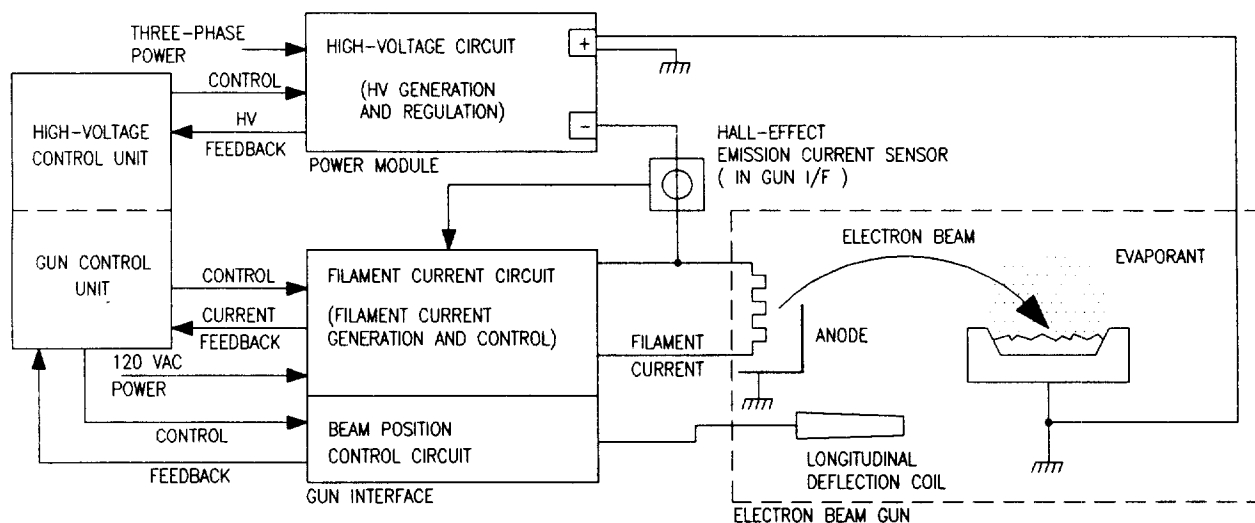

Figure 4-1. Block Diagram, Simba 2 Power Supply and Electron Beam Gun
The Simba 2 power supply is designed to generate and regulate: (1) a low-voltage alternating current used to heat the filament of an electron beam source (the filament current), and (2) a high (-10 kV) dc voltage that is superimposed on the filament current (see Figure 4-1). When these two forms of energy are supplied at adequate levels to a filament under high vacuum, electrons are emitted from the filament, producing a dc emission current through the high-voltage circuit.